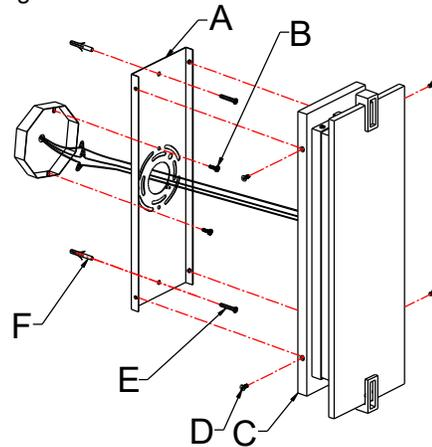

Fig. 2
CONNECTING THE WIRES (Fig. 2)
6. Connect the electrical wires as shown in Fig. 2, making sure that all wire connectors are secured. If your junction box has a ground wire (green or bare copper), connect the fixture's ground wire to it. Otherwise, connect the fixture's ground wire directly to the mounting plate (A) using the green screw provided. After the wires are connected, tuck them carefully inside the junction box.